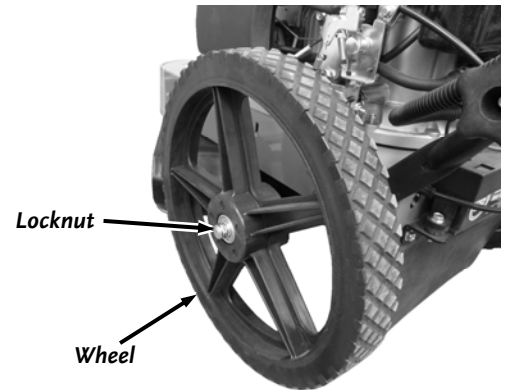

Figure 22
2. Loosen and remove the Locknut (**Figure 22**).